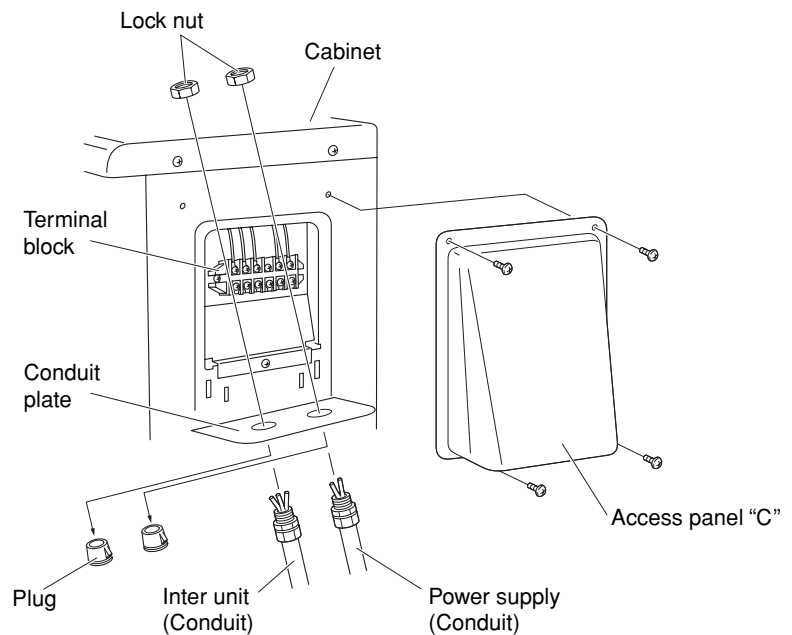

Fig. 46
- (1) Remove access panel "C". (Fig. 46)
- (2) Connect the inter-unit and power supply line according to the drawing on the panel side.
- (3) Be sure to size each wire allowing approx. 4" (10 cm) longer than the required length for wiring. Store excess wiring inside the cabinet.
- (4) When connections are completed, check that all connections are correct as shown in the wiring system diagram on panel side.
- (5) Be sure to ground the unit according to your local codes.